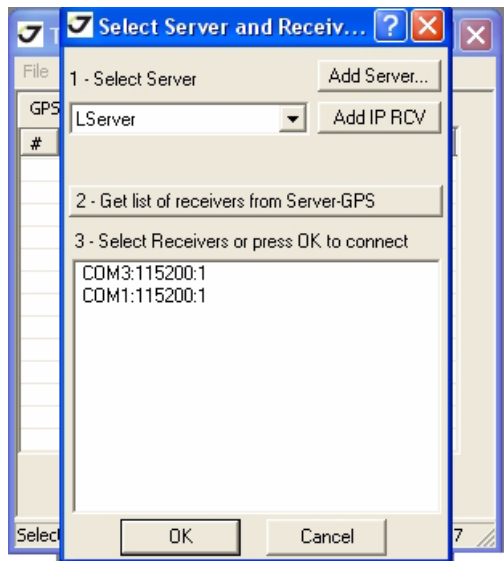

Figure 5-1. Connection Parameters
2. Start TriVU. Select the COM port and click Ok (Figure 5-1).